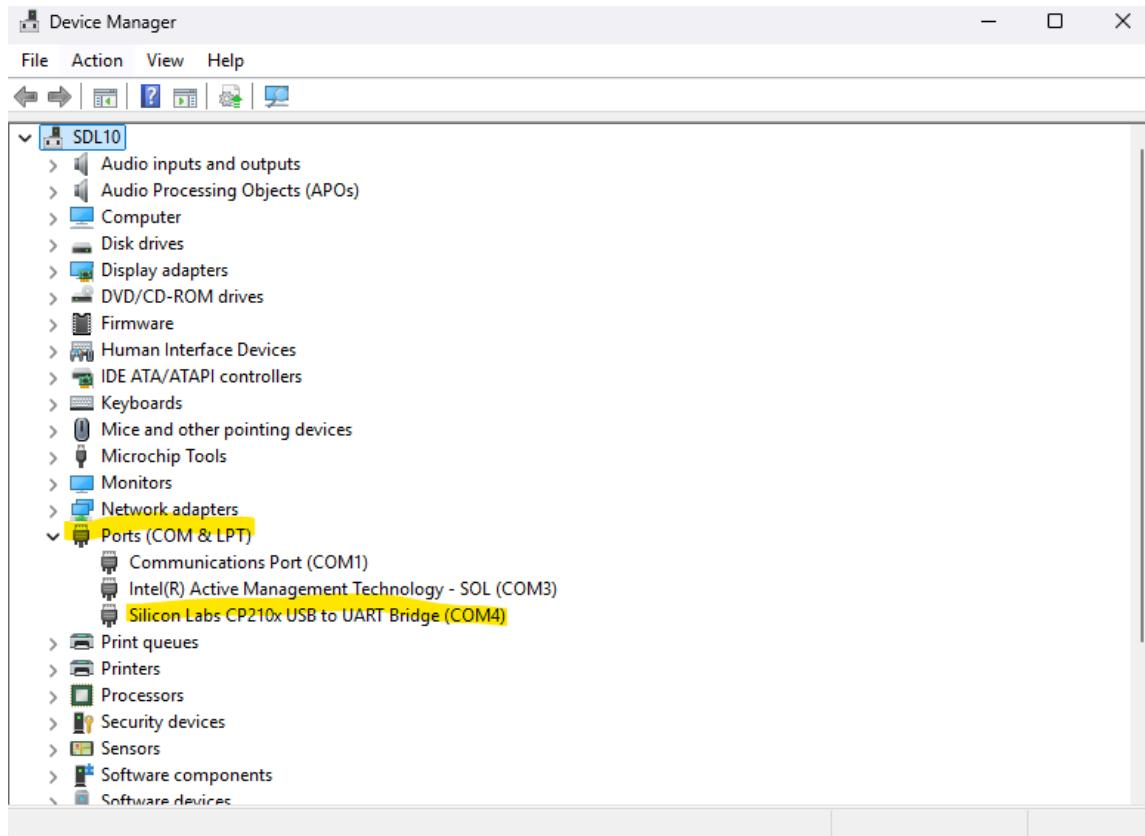

Figure 3.5 - Searching for COM Port Using Device Manager (TS)
To check the COM port the prototype is running on, make sure the device is powered on and the USB port is connected to any USB port of the PC. Then, open Windows Device Manager on your PC. Scroll down to the “Ports (COM & LPT)” section and click the arrow to open the dropdown menu. Look for “Silicon Labs CP210x USB to UART Bridge” and check the COM port associated with it. See figure 3.5 for a visual representation of this process. Then, click the corresponding button in the GUI. Click “Continue” to continue or “Cancel” to return to the main menu (TS).